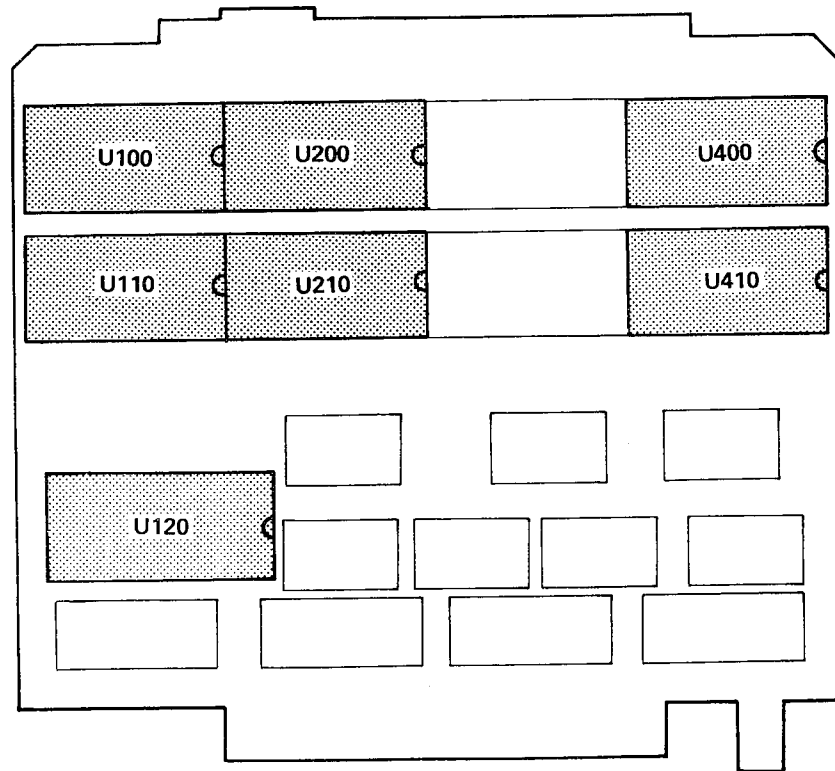

Fig. 1. Locations of Microcircuits on ROM Circuit Board (A31).
- () 5. Replace U100, U110, U120, U200, U210, U400, and U410 with the microcircuits provided in the kit. (Refer to Fig. 1 for locations of the microcircuits.)